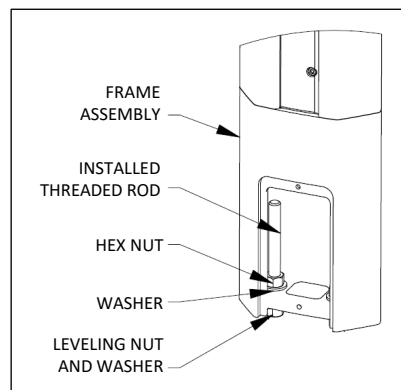

Fig. C2 – Install frame over anchors
4. Install washers and nuts, see Fig. C2. Do not overtighten.